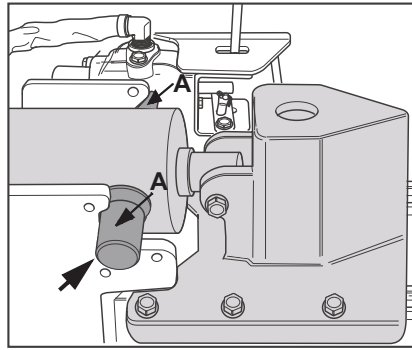

Fig. 9a
- Lift the cylinder up to the end of the splitting column and slide into the welded-on mount block (pin A must be situated in the recesses). Fig. 9a